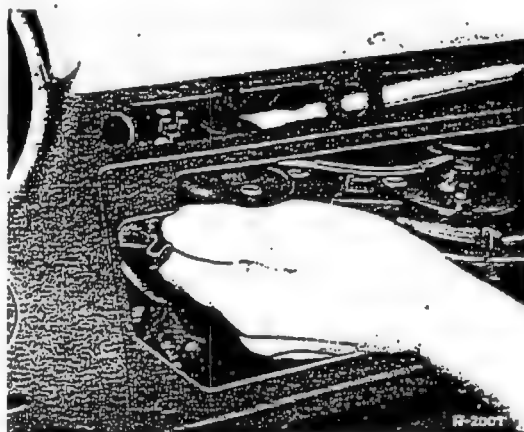

Fig. 83-2/10
12. After disconnecting the cable remove the operating system from the instrument panel (Fig. 83-2/10).